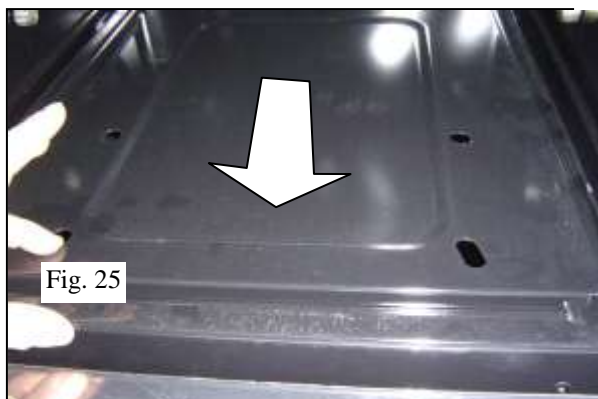

Fig. 25
**CAUTION:** when refitting place the base underneath the groove on the fascia (fig.25).